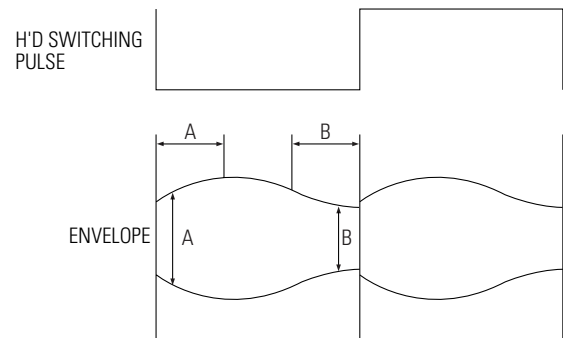

Fig. 2-7 Adjustment Points
- 4) If the section A in Fig. 2-7 does not meet the specification, adjust the guide roller S up or down.
- 5) If the section B in Fig. 2-7 does not meet the specification, adjust the guide roller T up or down.